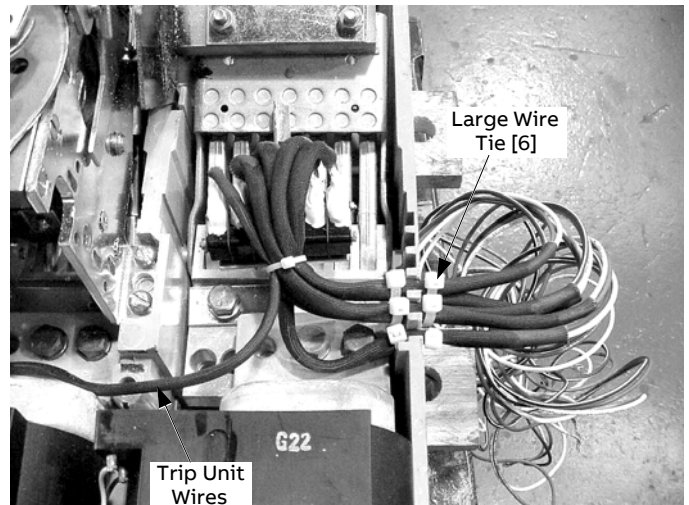

Figure 14. Auxiliary switch wires exiting the breaker (2500–4000 A shown).
15. Run the five remaining auxiliary switch cables out through the slots in the breaker base. Secure the cables in position with large wire ties [6] for strain relief, as shown in Figure 14.